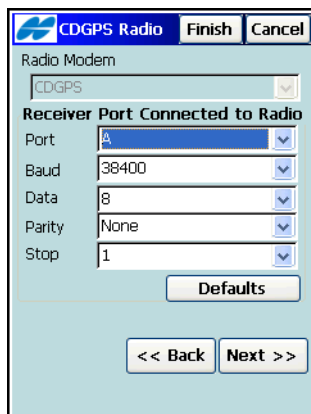

Figure 4-55. CDGPS Radio
- For CDGPS (Canadian nation-wide DGPS service), set the parameters for the receiver port connected to the CDGPS radio (Figure 4-55).